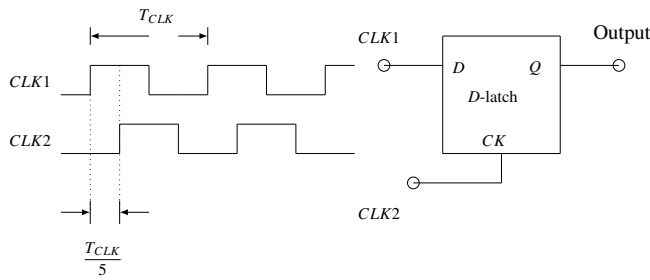

Fig. 5.16
16. Consider the  $D$ -Latch shown in Fig. 5.16, which is transparent when its clock input  $CK$  is high and has zero propagation delay. In the figure, the clock signal  $CLK1$  has 50% duty cycle and  $CLK2$  is a one fifth period delayed version of  $CLK1$ . The duty cycle at the output of the latch in percentage is \_\_\_\_\_. (GATE-EC2017)